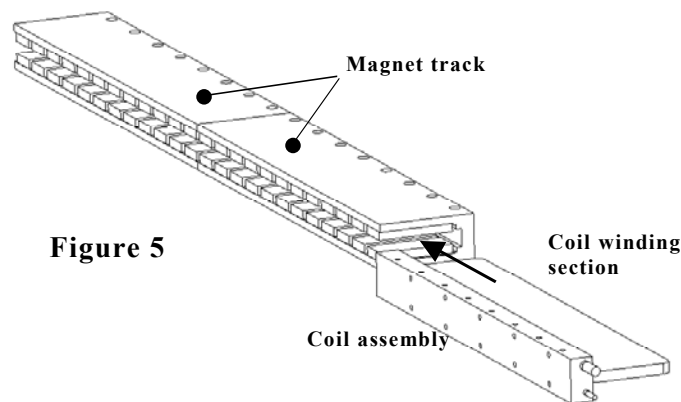

Figure 5
- (1) Insert the coil winding section of the coil assembly between the magnets of the magnet track that have already been installed. (Refer to Figure 5). Next, install the moveable table supported by the coil assembly's linear guide. Make sure that the air gap between the coil assembly's coil winding section and magnet track's magnets is the specified distance. (Refer to Table 1 in section 1.2 Mechanical Precision).